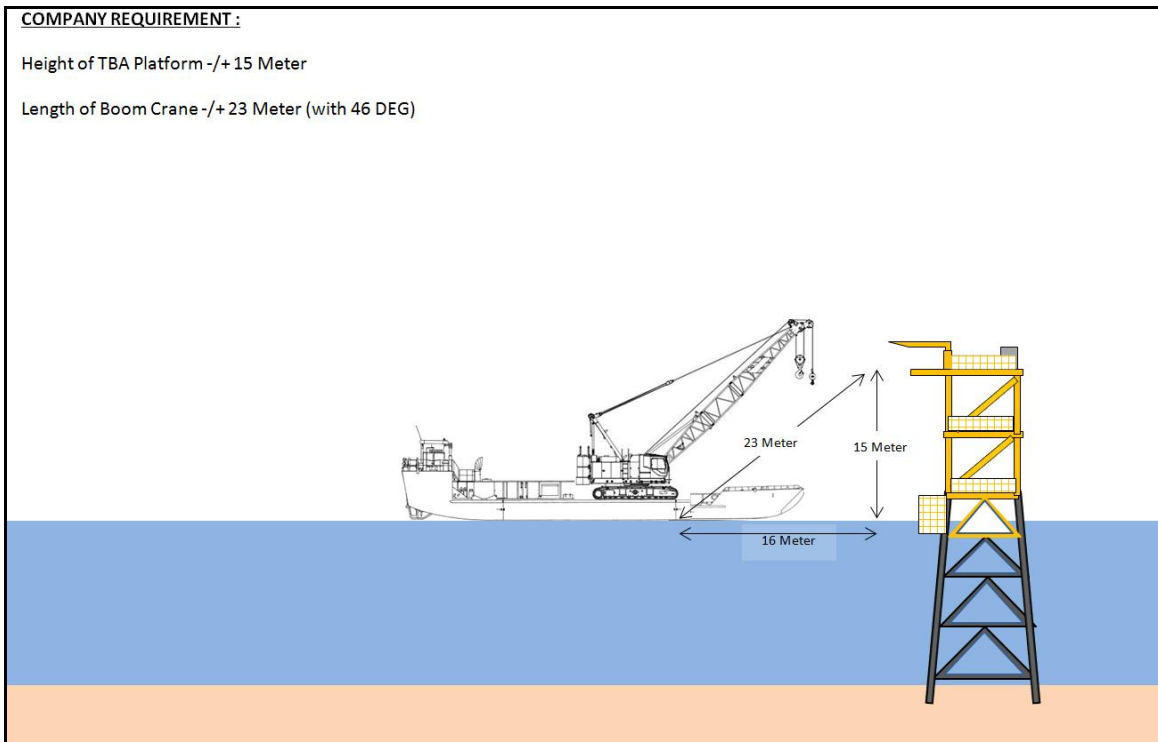

Figure 4. Lifting Support LCT with Mobile Crane
- o 1 LCT with the mobile crane to be the lifting unit to move equipment from LCT to Platform (Figure 4)